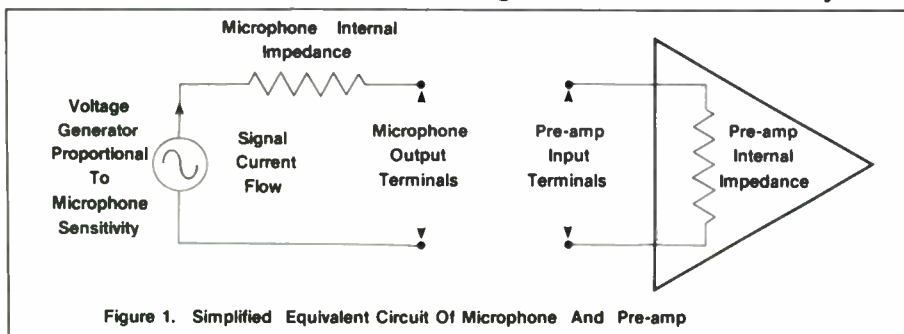

Figure 1. Simplified Equivalent Circuit Of Microphone And Pre-amp
3. Minimal pickup of unwanted signals, such as hum or buzz. Whenever a dynamic, ribbon or condenser microphone is connected to a preamp, a fraction of the signal generated by the microphone is not delivered to the preamp. This occurs because the preamp has a certain input impedance and when signal currents flow from the microphone, there is a small voltage drop across the microphone's internal impedance. (See figure 1 below.) To